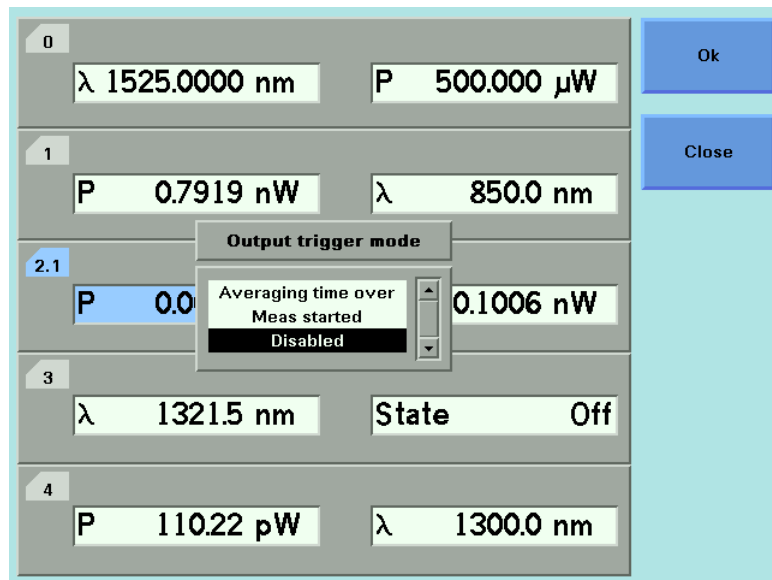

Figure 71 Output Trigger Mode
- 3 Move to *<Output Trigger Mode>*, by using the cursor key, and press *Enter*. You will see the screen in Figure 71.